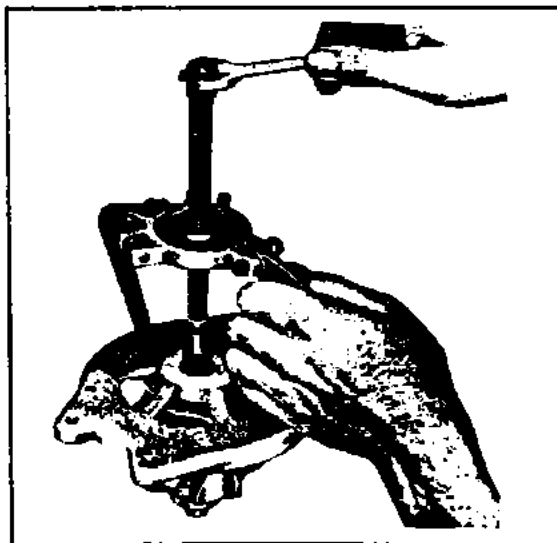
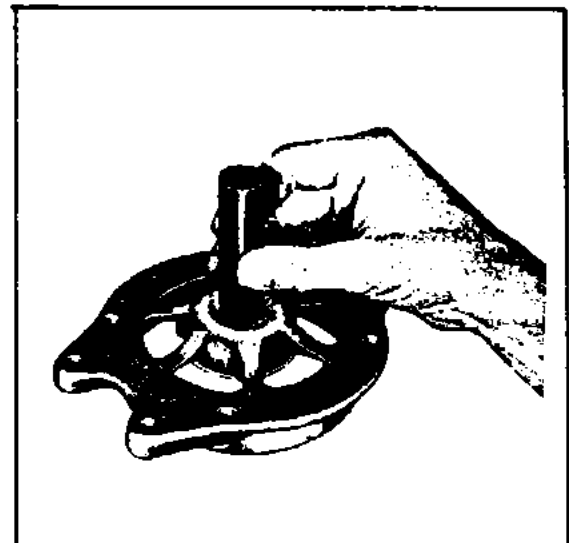

Figure 11-24. Removal of
Figure 11-25. Removal of
f. To remove the drive end head from the rotor shaft, use a puller that grips on the bearing retainer plate as shown in Figure 11-24. Do not attempt to remove by supporting the end head and pressing on the shaft, as this may result in distortion of the end head or stripping of the retainer plate screws. Remove the three retainer plate screws and press the bearing out of the end head. (Refer to Figure 11-25.)